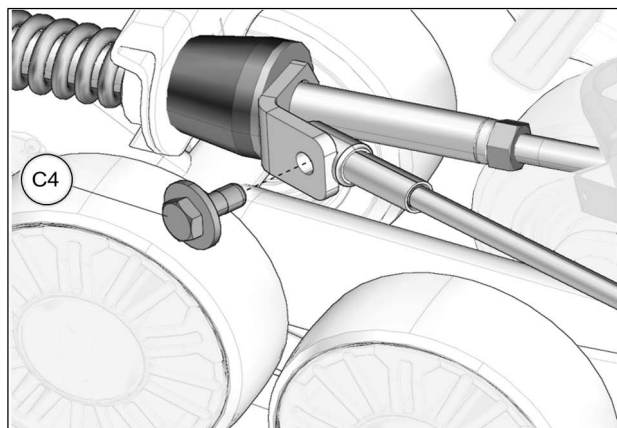

Fig. 26
19. Reverse steering wheel a little to be able to bolt support plate and cable together. Tighten provided bolt (C4) to 35 Nm [24 lb•ft]. See Fig. 26. Repeat steps on right side.